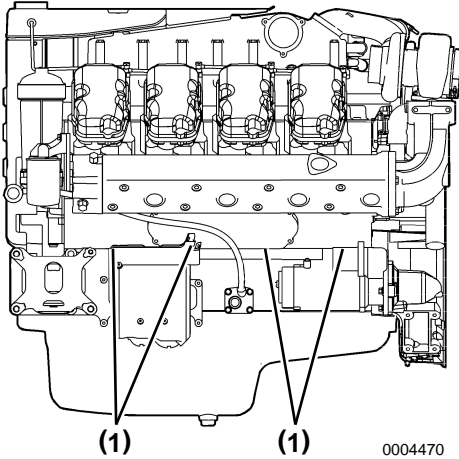

Figure 7
4. Check the overflow holes (**Figure 7, (1)**) in the block. Leakage from these holes indicates that the O-rings between the cylinder liners and the crankcase are leaking.